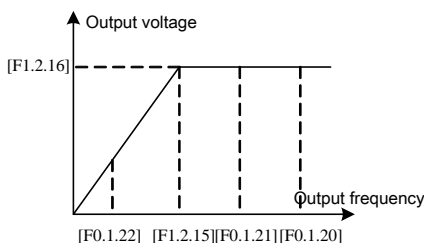

Figure 7-7 Frequency Parameter Definition Sketch
The maximum output frequency, upper limiting frequency and lower limiting frequency shall carefully set according to the actual nameplate parameters and operating status of the controlled motor and. The relationship among the three kinds of frequency is shown in Figure 7-7.
- [F1.2.15] in Figure 7-7 represents the motor's reference frequency, and [F1.2.16] refers the motor's reference voltage.